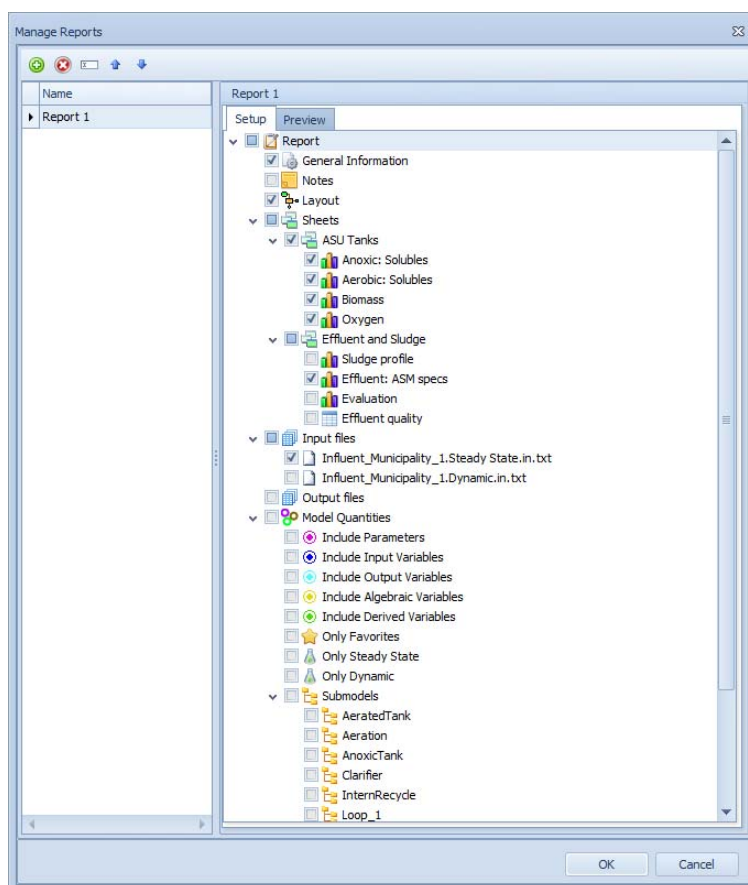

Figure 7.16 Select the individual elements of the Project to create a Report
- Add the relevant objects to the report, by flagging the corresponding check-box (Figure 7.16). For instance: